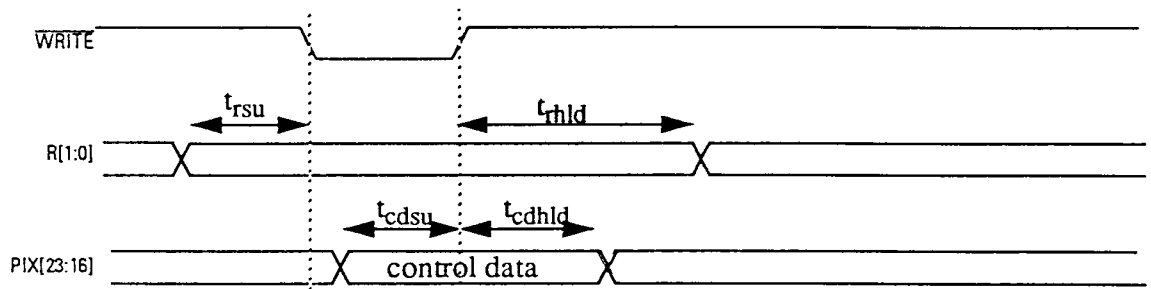

Figure 14. Write Timing Waveforms
- Figure 14, Read Timing Waveforms